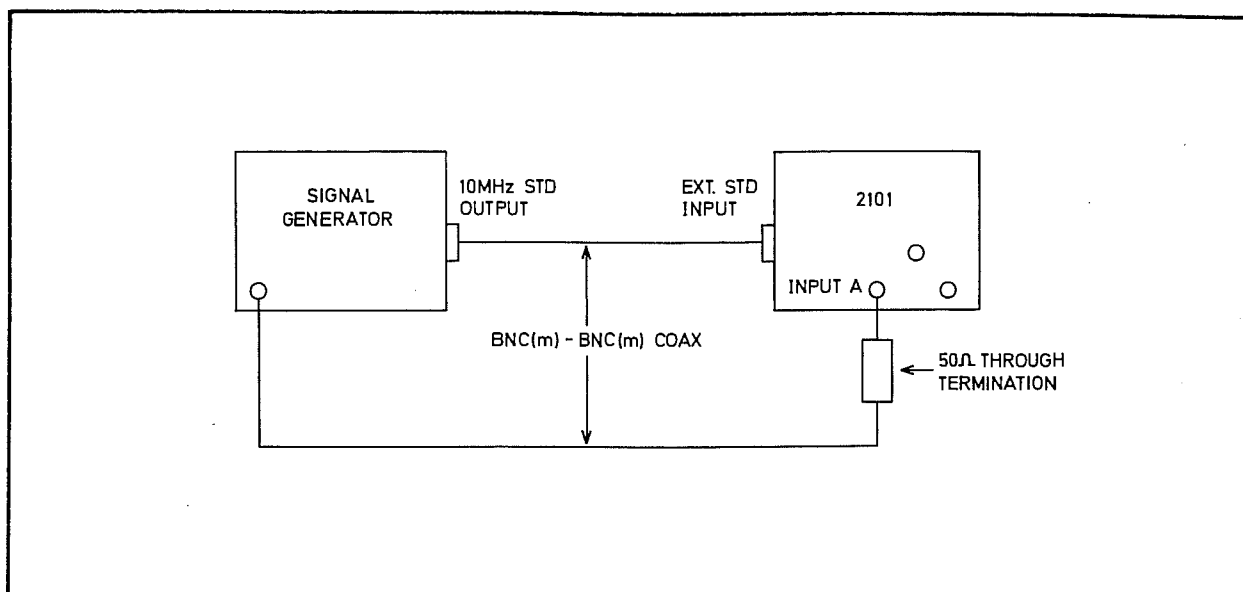

Fig. 7.19 Connection for AF Sensitivity PVP (Method 1)
- (1) Connect the equipment as shown in Fig. 7.19. Check that the EXT STD indicator is lit.
- (2) On the 2101 select SF11 to enable the 50 kHz filter and set a 0.5 second gap between measurements by pressing: